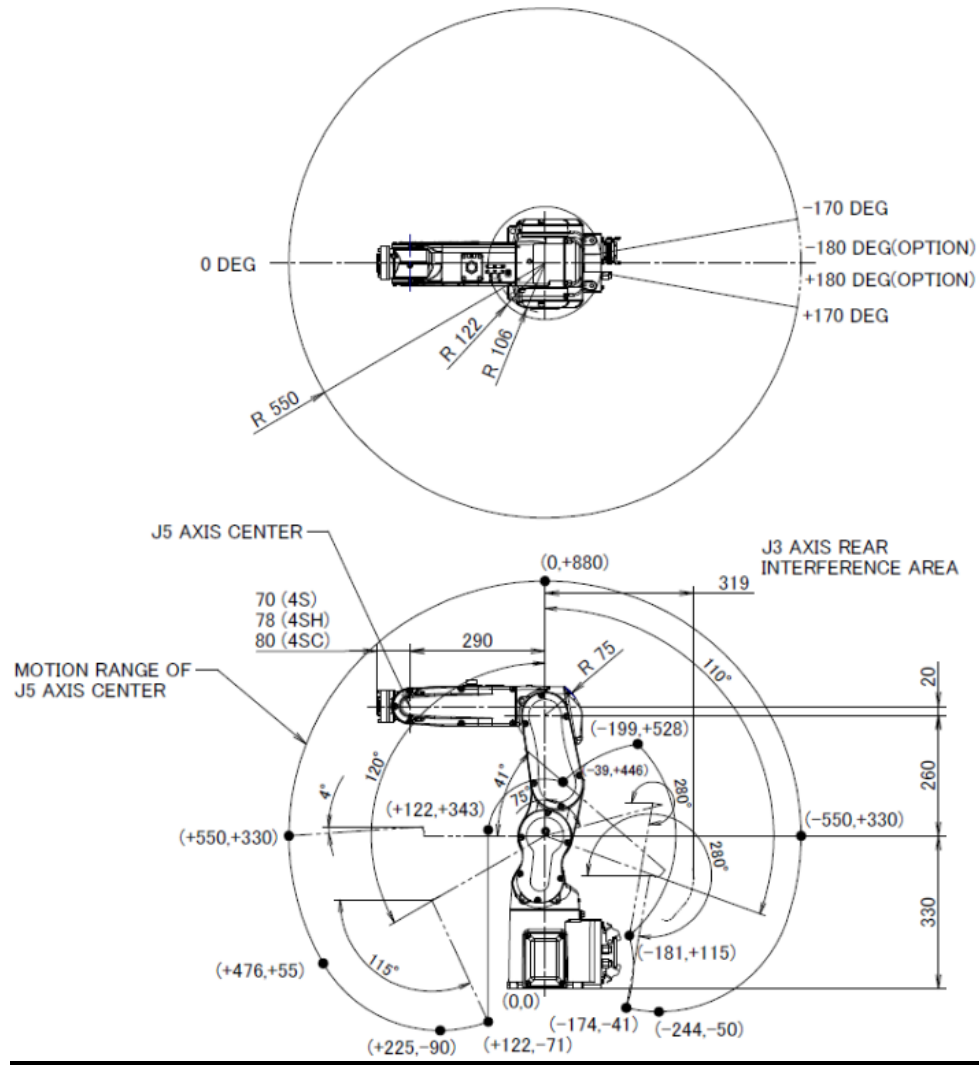

Figure 2: Manipulator's dimensions (in mm).
- Refer to Figure 2 for dimensions (We are using the 4SH tool in this lab).
- Derive the camera transformation matrices below based on Figure 2 to convert the position of an object in pixel coordinates to the position of the object in real-world coordinates with respect to the inertial/reference frame located at the base of the robot. All parameters needed for this task are given below.